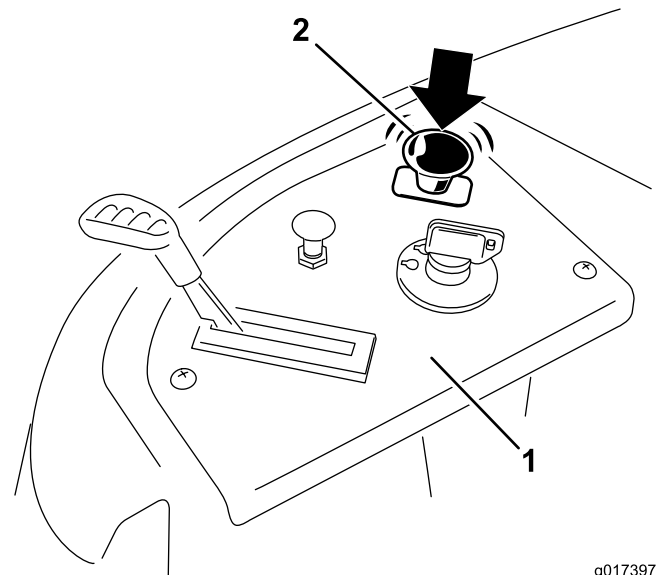

Figure 17
Push down on the blade control switch to move it to the Off position and disengage the blades (Figure 17).
1. Disengage the blades by moving the blade control switch to Off (Figure 17).